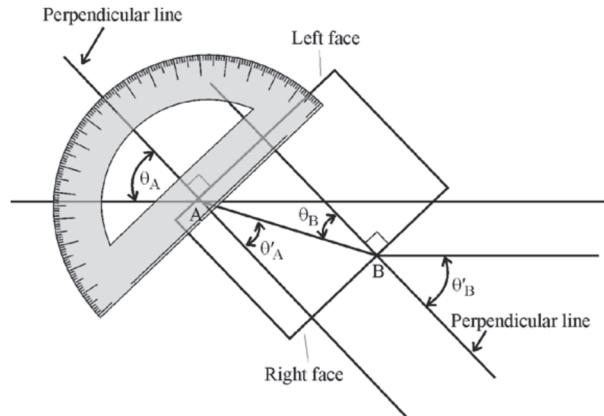
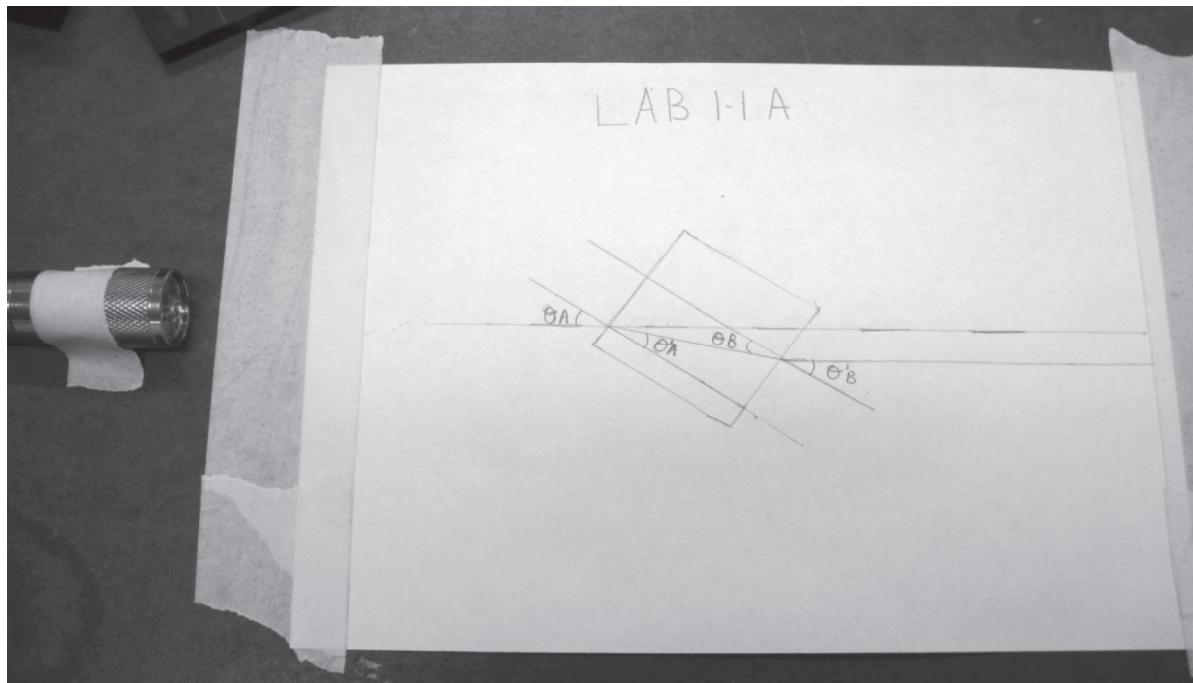

Figure 8 – Protractor Measurements Illustrated
Figure 9 – Sketches of Incident and Refracted Beams
6. Use the protractor (LI-4) to draw a line through point A that is perpendicular to the left face of the block. Draw another line through point B that is perpendicular to the right face of this block. Refer to Figure 8 and Figure 9.
7. Measure and record the angle θ_A between the incident beam and the normal line at the left face of the block (point A). Do the same for the refracted beam at this face. This is angle θ'_A . Refer to Figure 8 and Figure 9.
8. Measure the angle between the normal line and the incident and refracted (exit) beams at the right face of the block (point B). Label these as θ_B and θ'_B . Refer to Figure 8 and Figure 9.